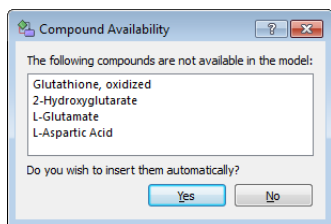

Figure 72 Compound Availability dialog box
- b Review the list of metabolites in the Profinder Archive file that do not match to a compound in the open document in the **Compound Availability** dialog box. Four compounds are not available in the network diagram (Figure 72).